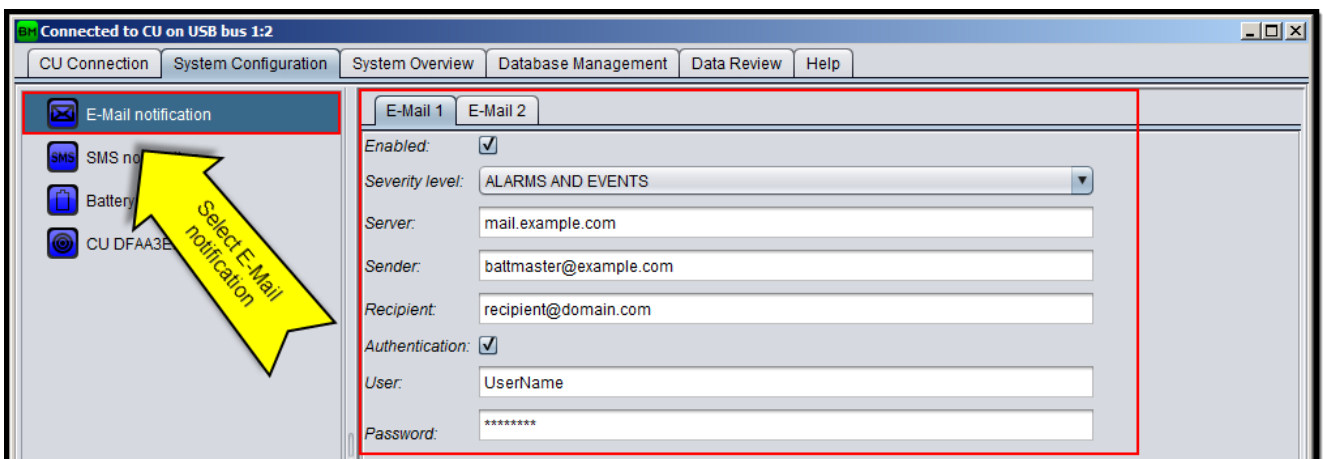

Figure 29: E-Mail notification configuration
6. Select E-Mail notification as shown on Figure 29.